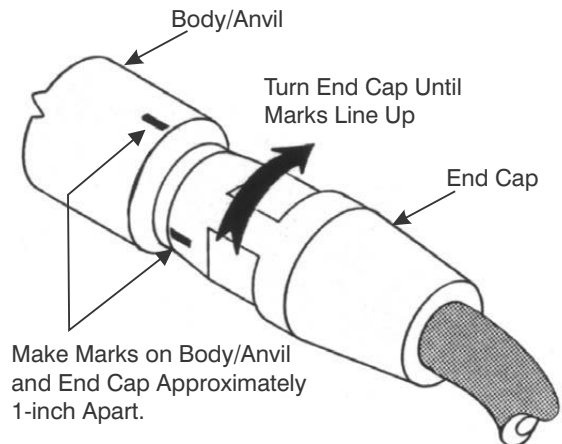

Figure 9-28. Tighten the End Cap to the Required Torque
8. Tighten the End Cap to a torque of 750-1000 ft.-lbs (1015-1355 n-m). If a torque wrench is not available, use the following procedure. See Figure 9-28.